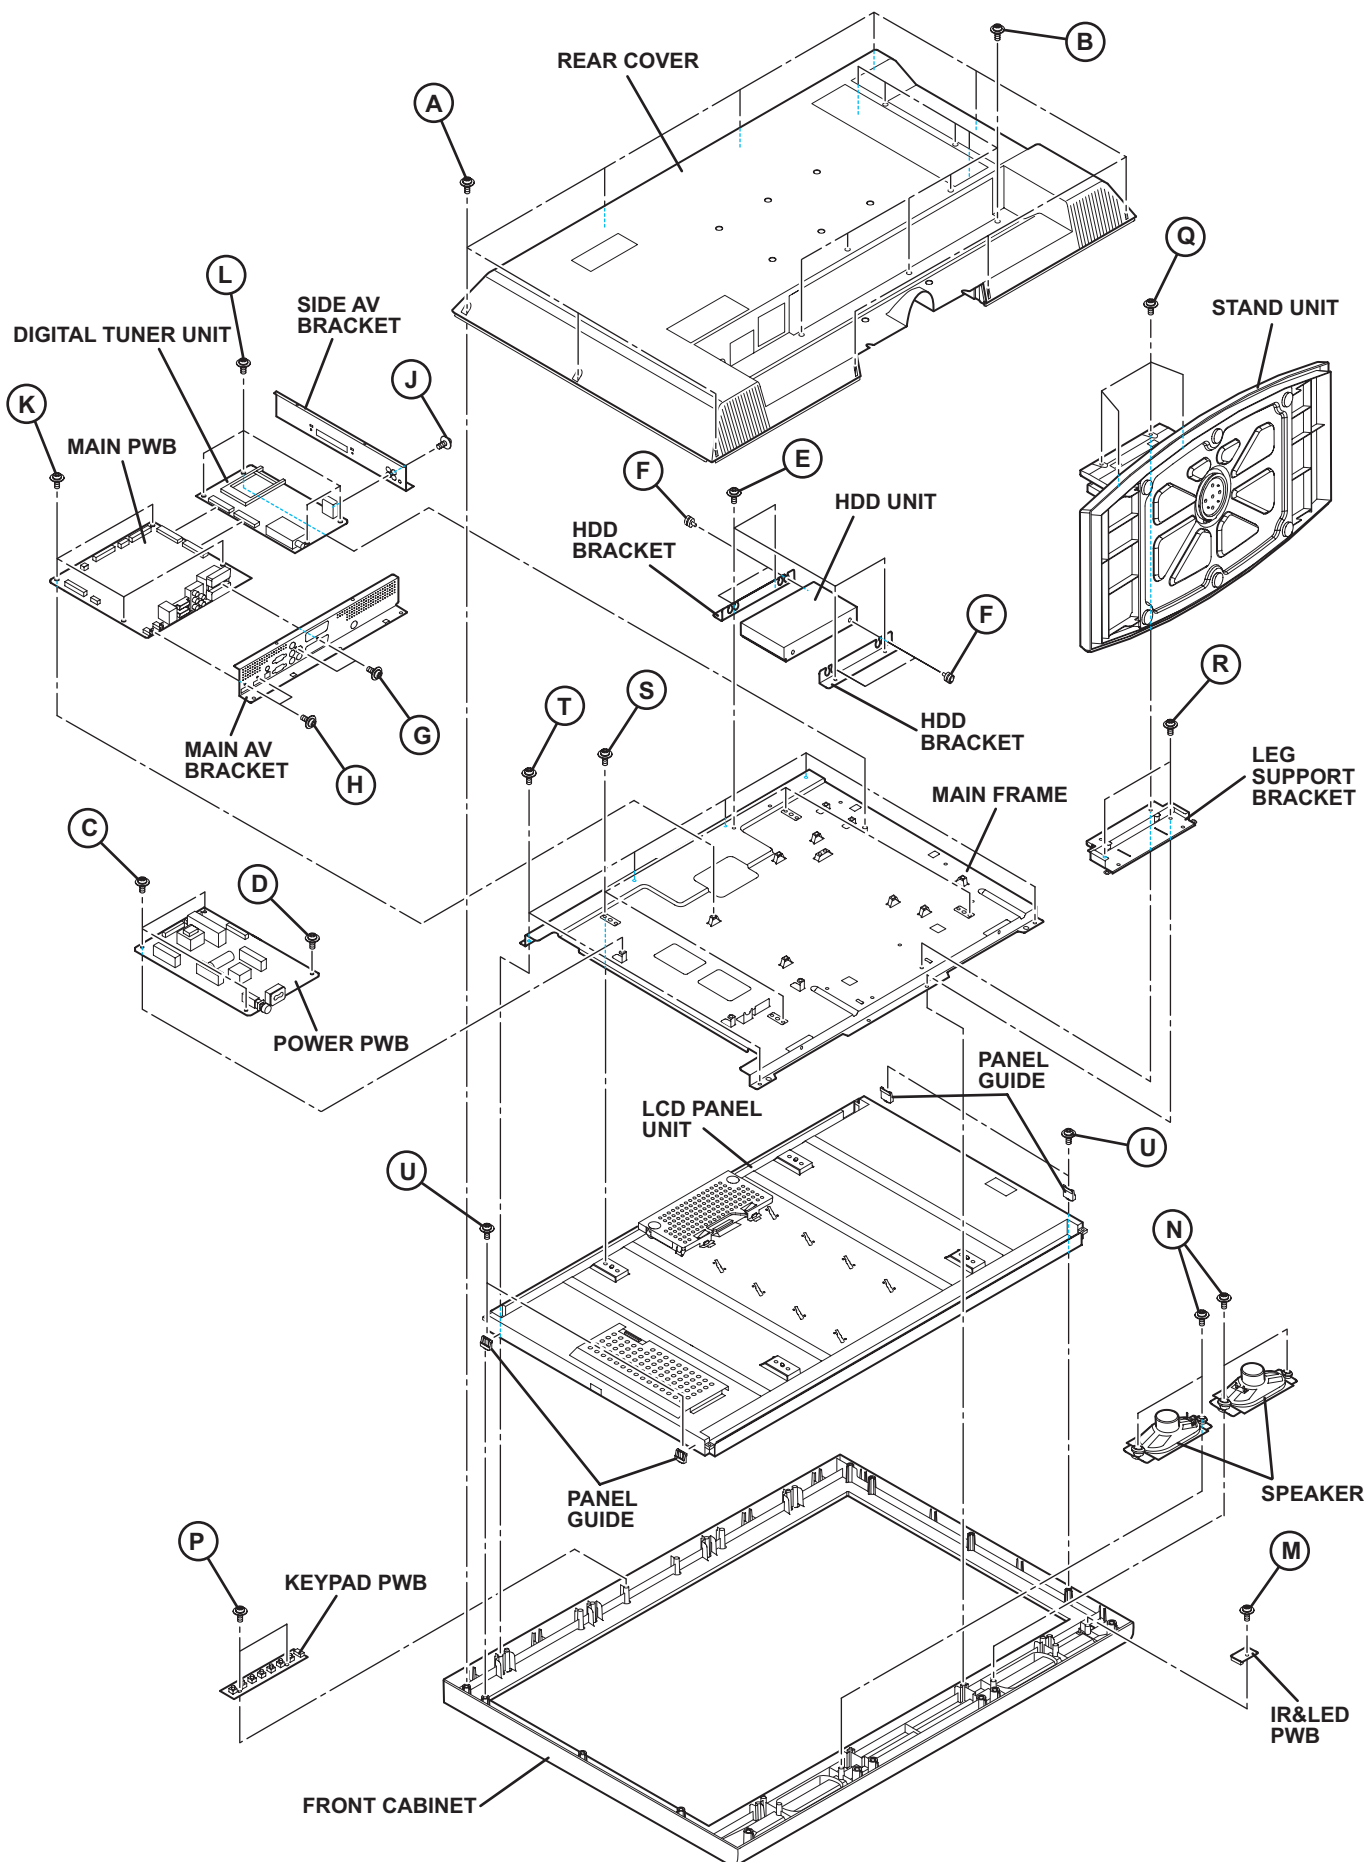

Fig.3-1
3.2.1 REMOVING THE REAR COVER (Fig.3-1)
- (1) Remove the 10 screws [A] and 9 screws [B].
- (2) Remove the REAR COVER.
3.2.2 REMOVING THE POWER PWB (Fig.3-1)
- (1) Remove the 3 screws [C] and 1 screw [D].
- (2) Remove the POWER PWB.
3.2.3 REMOVING THE HDD (Fig.3-1)
3.2.4 REMOVING THE MAIN PWB / DIGITAL TUNER UNIT (Fig.3-1)
3.2.5 REMOVING THE IR&LED PWB (Fig.3-1)
- (1) Remove the 1 screw [M].
- (2) Remove the IR&LED PWB.
3.2.6 REMOVING THE SPEAKER (Fig.3-1)
3.2.7 REMOVING THE KEYPAD PWB (Fig.3-1)
- (1) Remove the 2 screws [P].
- (2) Remove the KEYPAD PWB.
3.2.8 REMOVING THE STAND (Fig.3-1)
- (1) Remove the 4 screws [Q].
- (2) Remove the STAND.
3.2.9 REMOVING THE LCD PANEL UNIT (Fig.3-1)